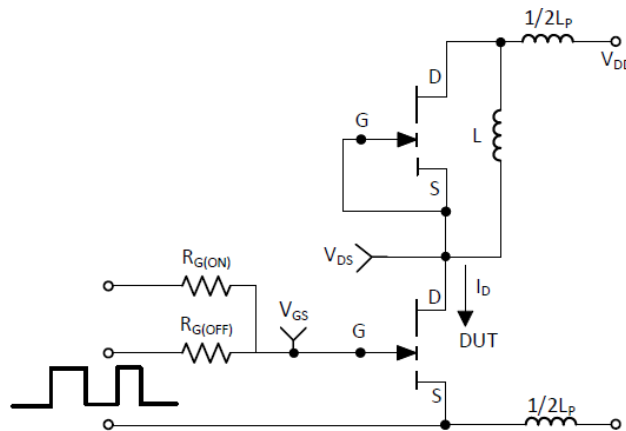

Figure 18: Switching Loss Test Circuit
(6) See Figure 18 for switching loss test circuit